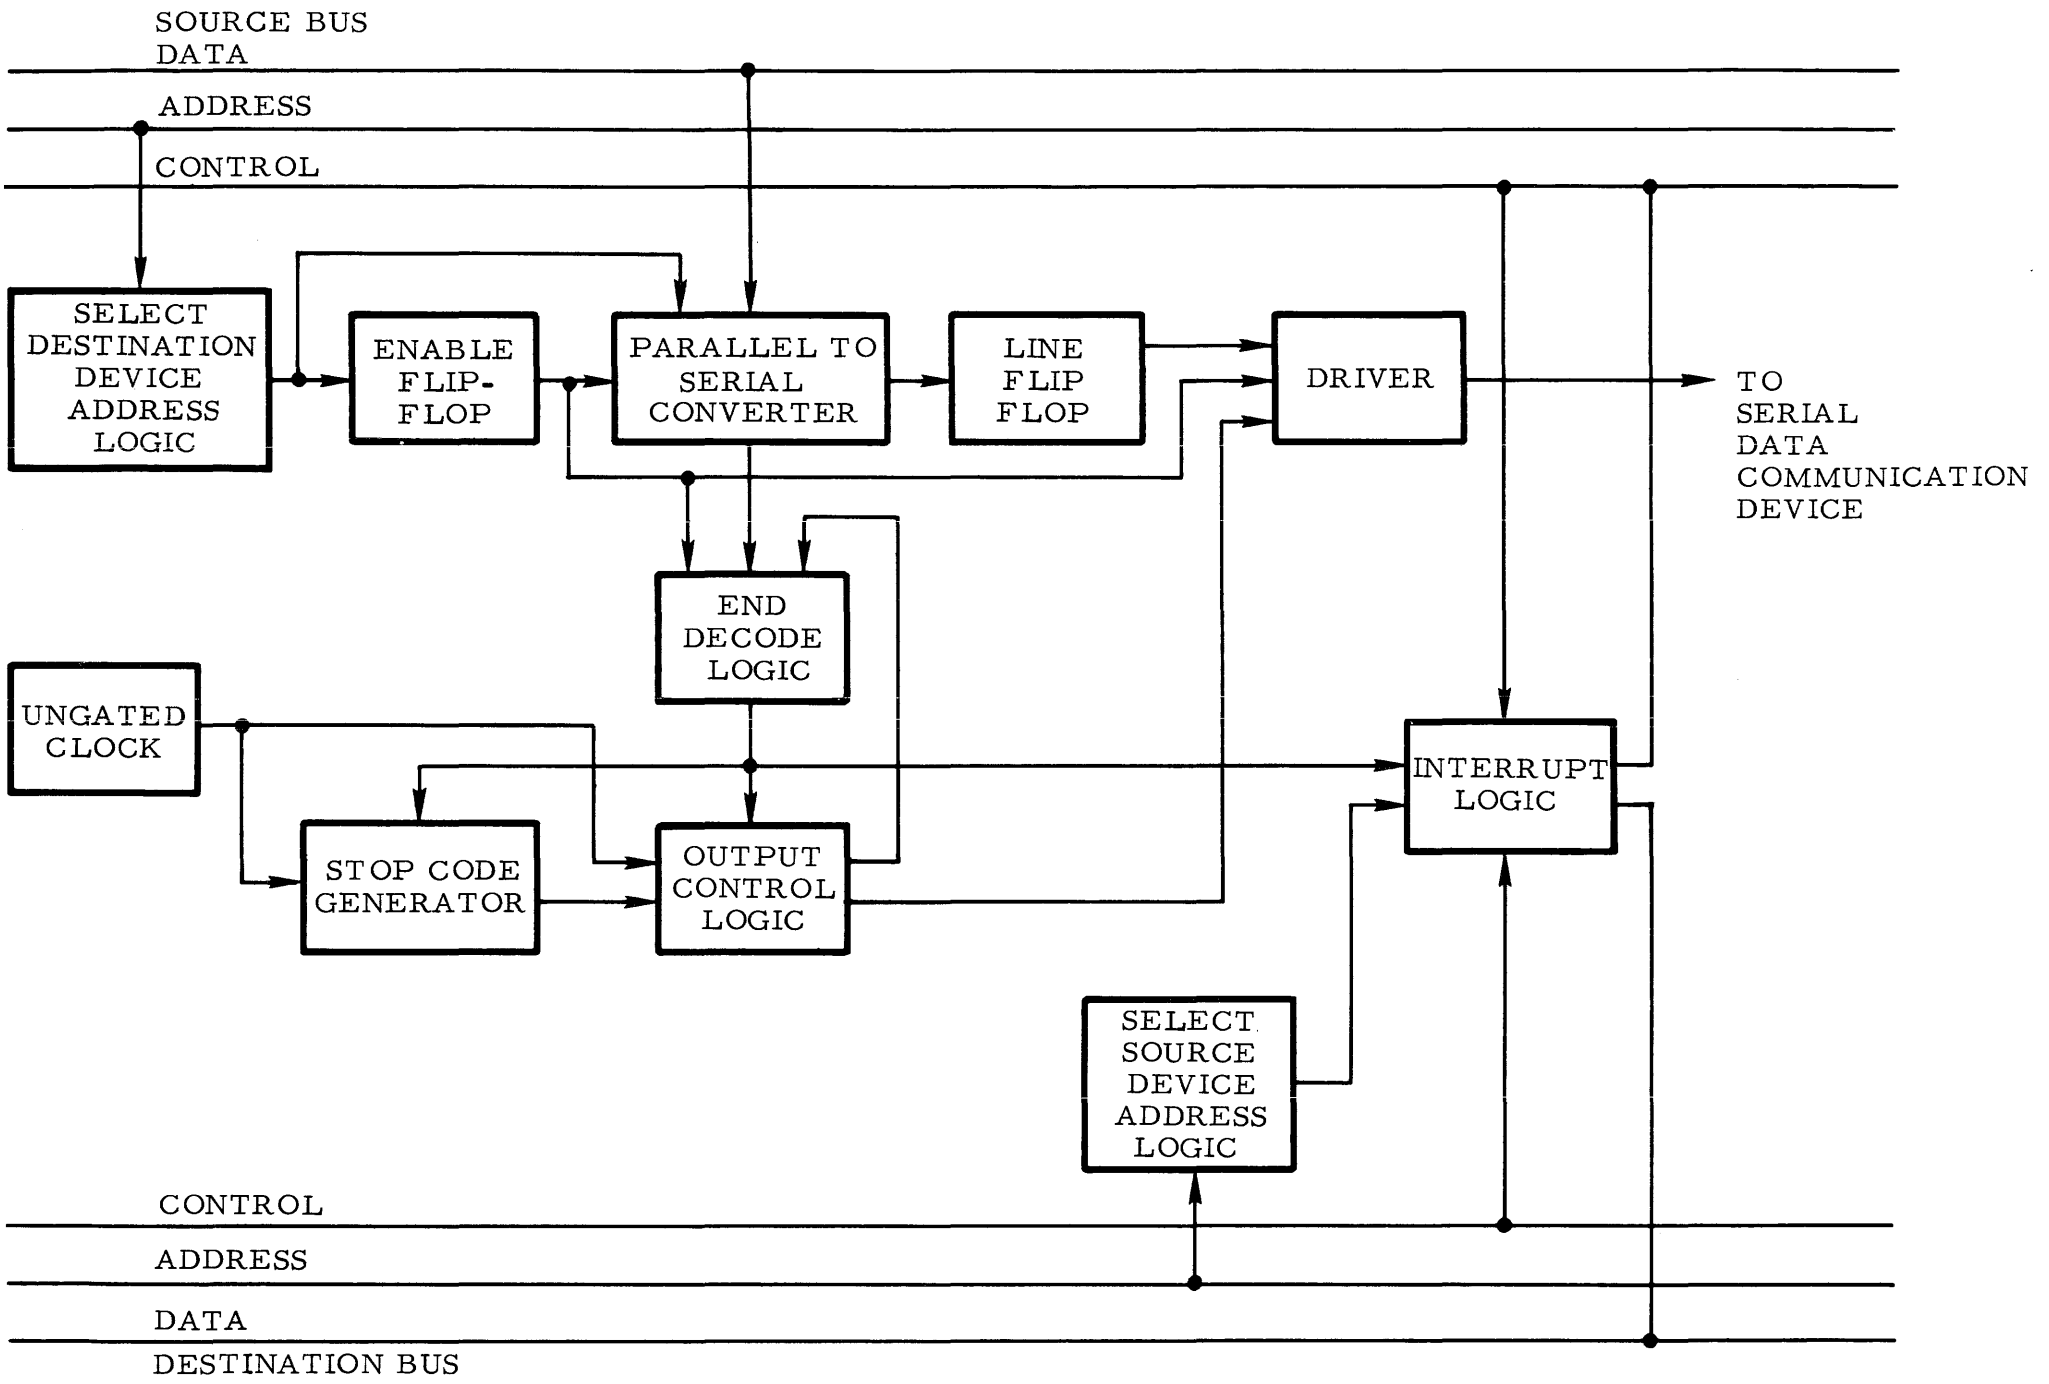

Figure 2-1. CHARACTER OUTPUT INTERFACE
A block diagram of the Character Output Interface card is shown in Figure 2-1.
- A. Control signals from the processor as shown in Figure 2-1.